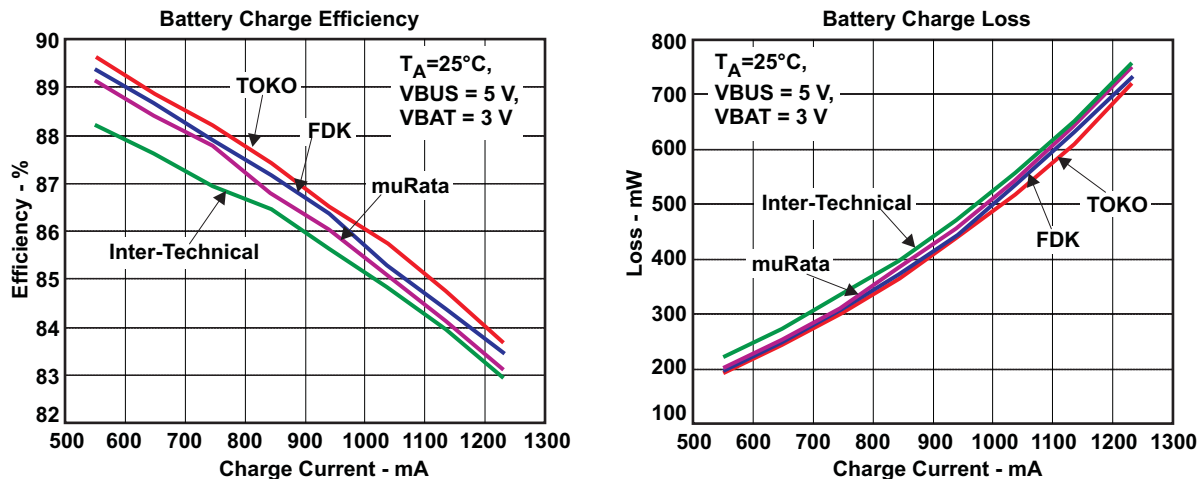

Figure 22. Measured Efficiency and Power Loss
4. Measured efficiency and total power loss for different inductors are shown in Figure 22.